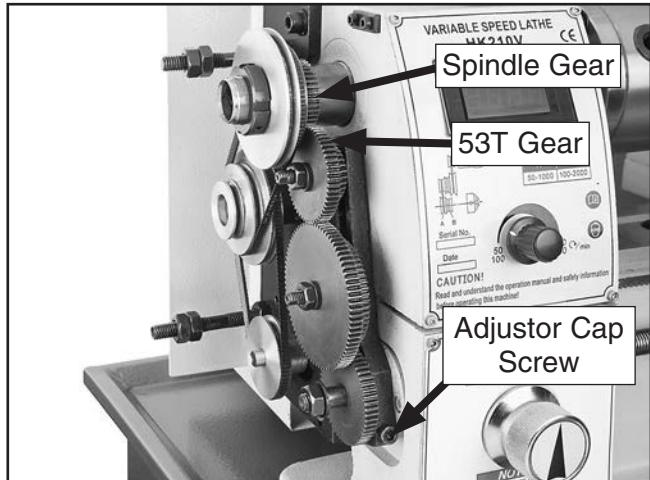

Figure 86. 53T gear meshed with spindle gear.
22. Swing adjuster up and mesh 53T gear with 40T spindle gear (see **Figure 86**).